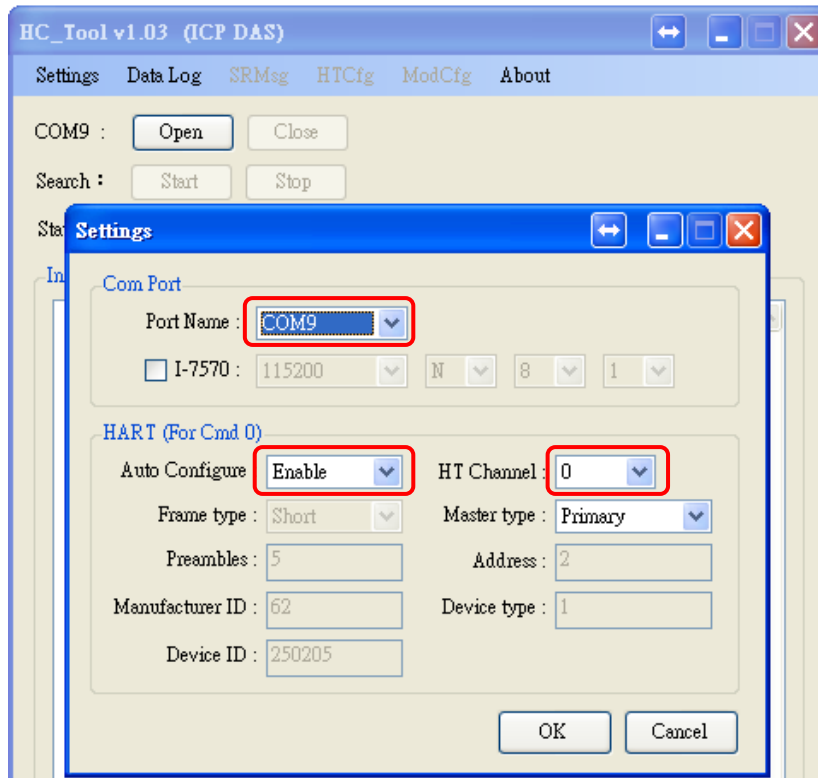

Figure 3-2: Set Com Port and HART Command Parameter
Step3: Set the “Port Name”, “Auto Configure” and “HT Channel” parameters like Figure 3-2.